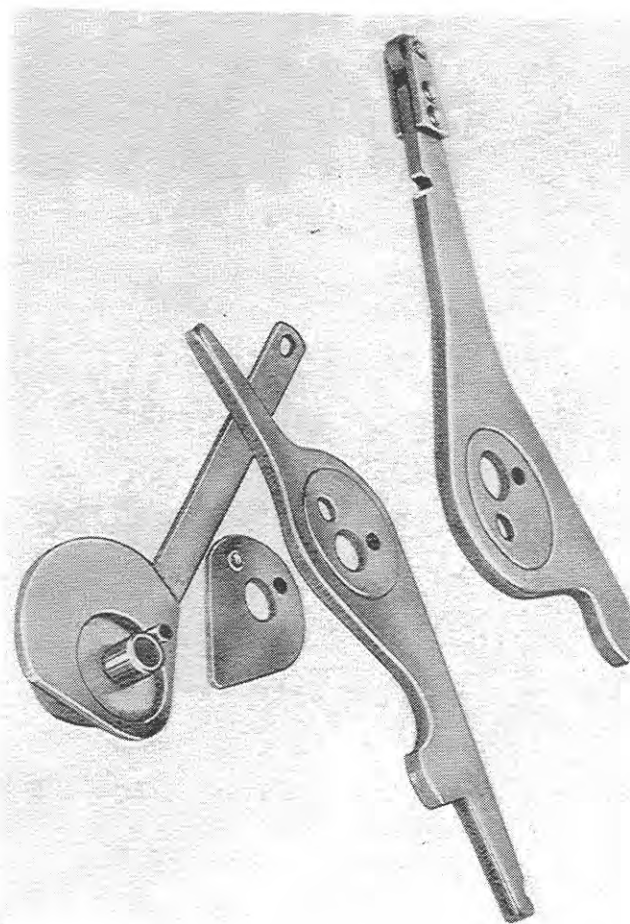
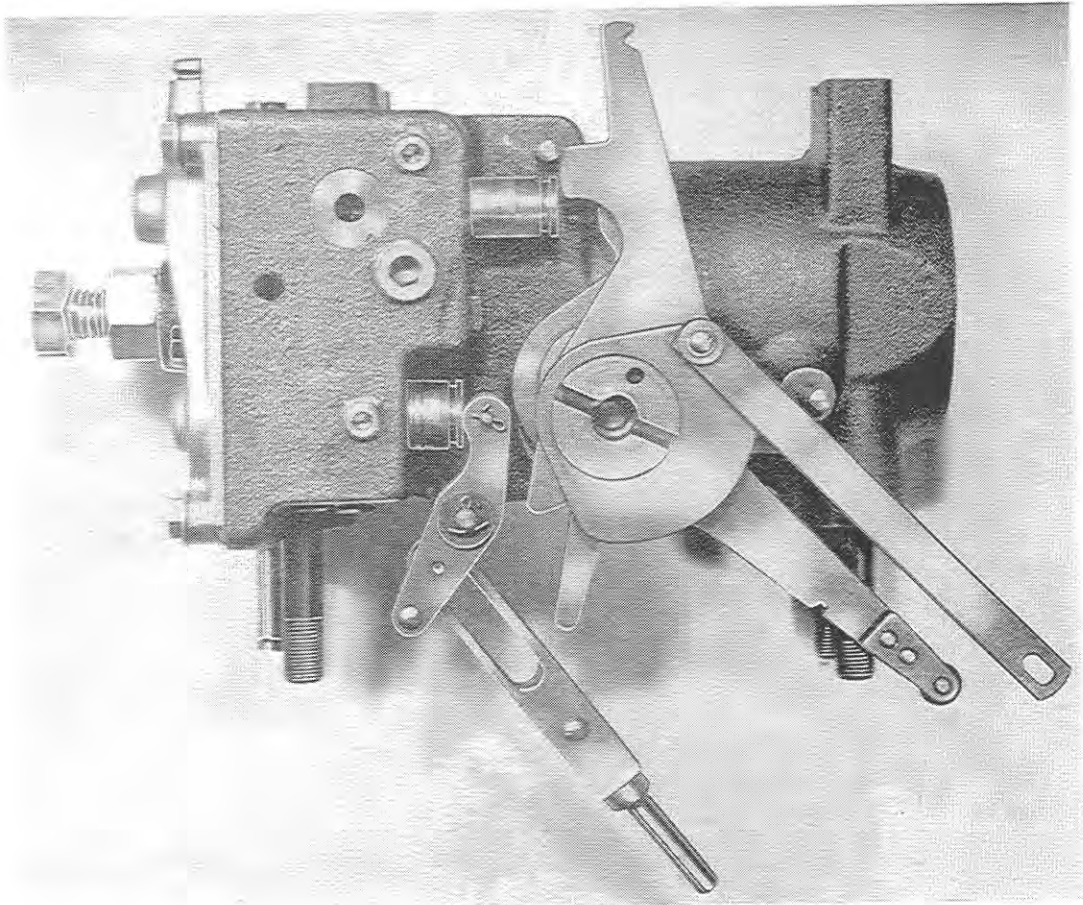

Fig. 11
Fig. 12 ✓
- 1) Assemble the cams as shown in Fig. 11, and fit them to the cylinder (Fig. 12).